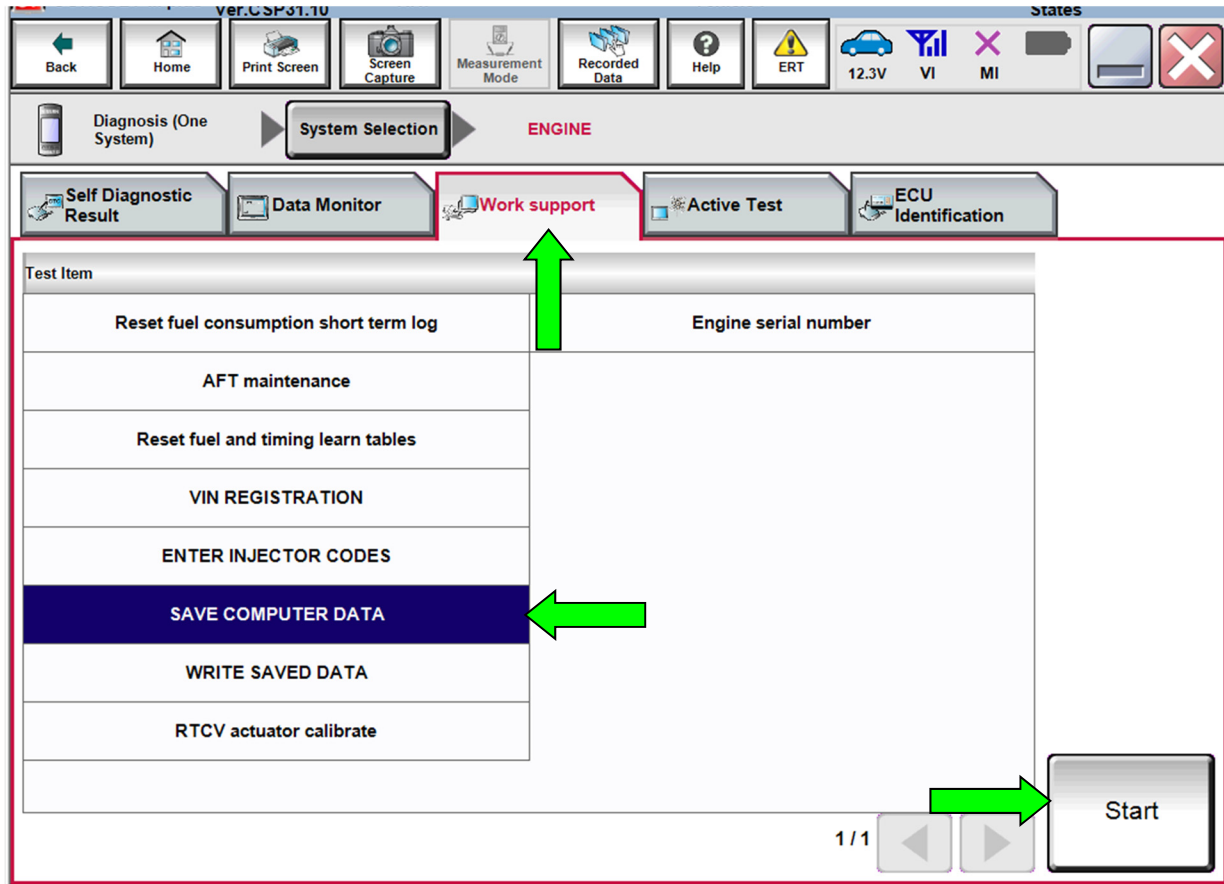

Figure 4
7. Navigate C-III plus to **ENGINE > Work support** (see Figure 4).